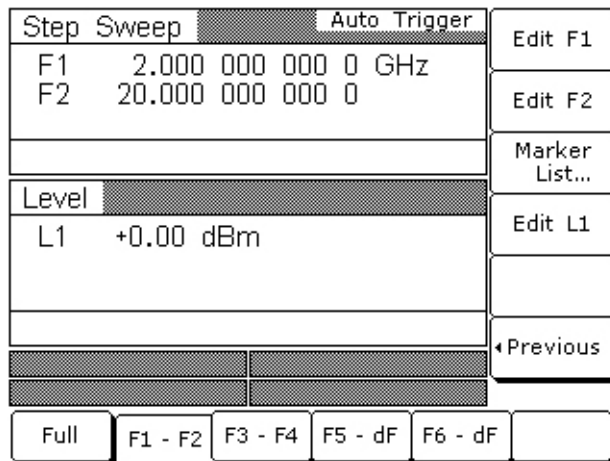

Figure 5-6. Frequency Control Menu
- c. With the Step Sweep menu displayed, press the **Frequency Control >** soft key. The Sweep Frequency Control menu is displayed (Figure 5-6).